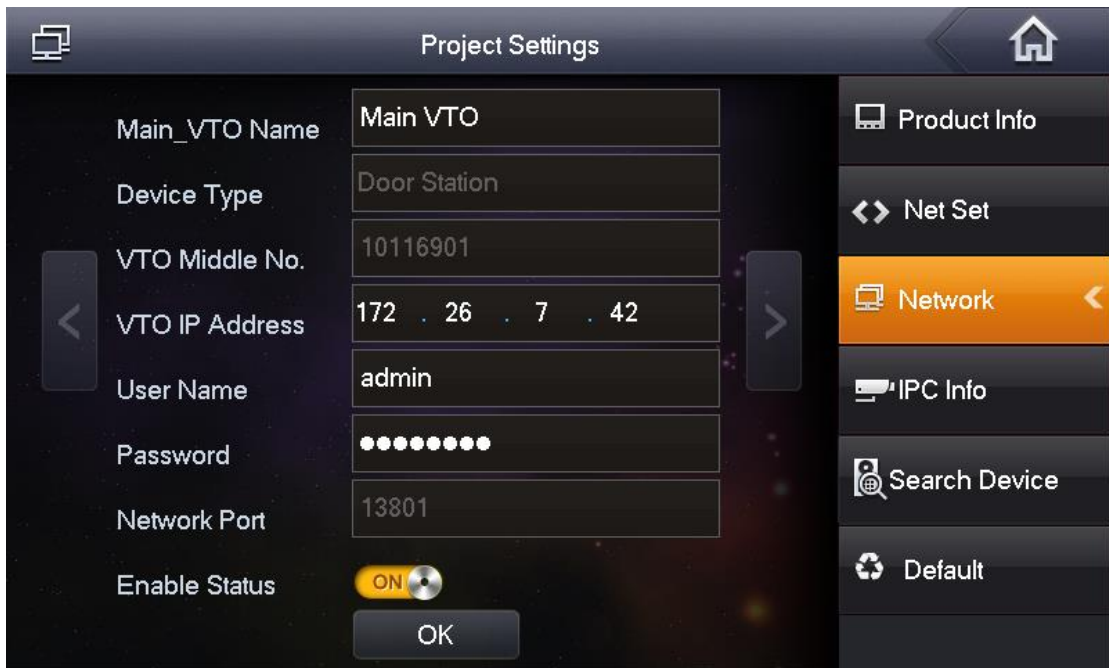

Figure 3-16
The system displays “Network” interface, as shown in Figure 3-16.
1. In Figure 3-16, enter main VTO name, IP address, “User Name” and “Password”.